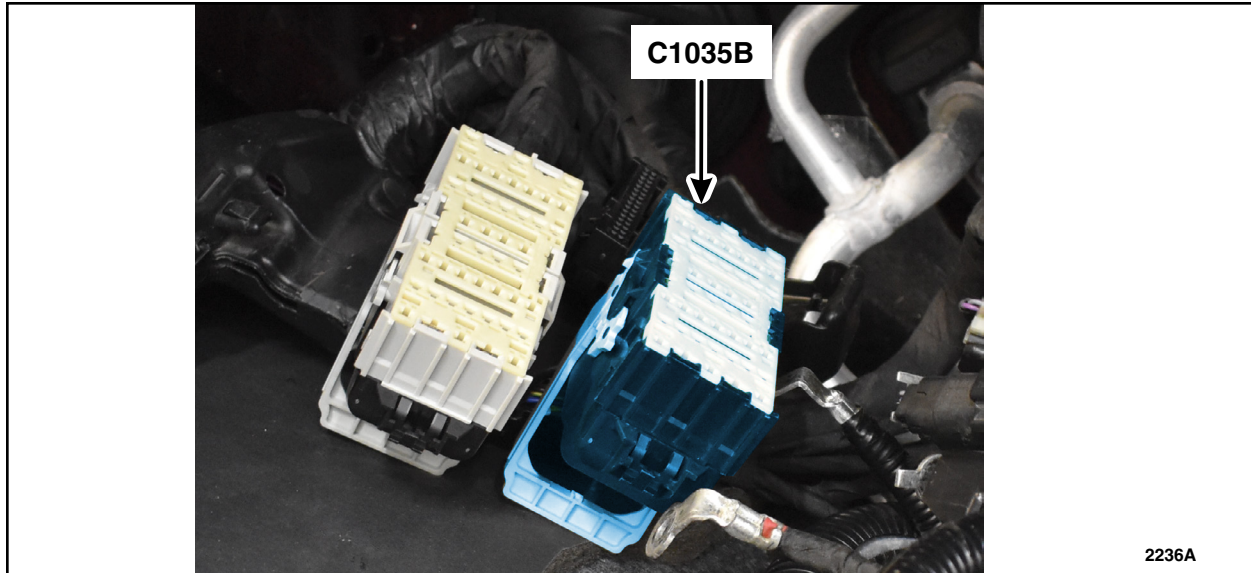

FIGURE 15
17. Locate the black 50-way connector (C1035B). See Figure 15.